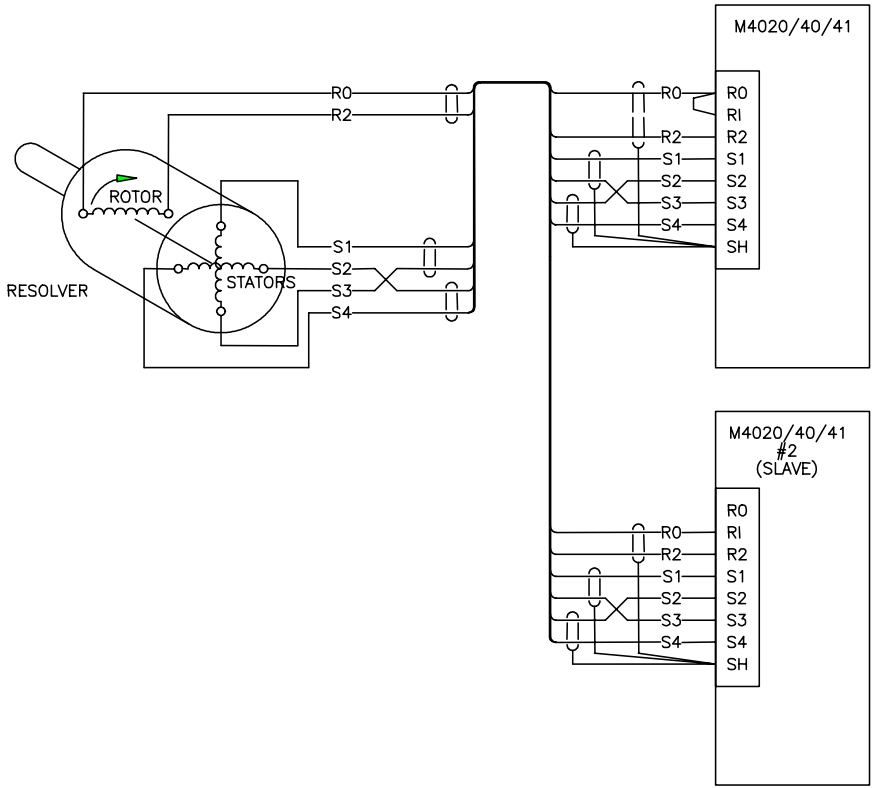

Figure 7.2 – M4020/40/41’s Slaved to One Resolver
Figure 7.2 shows two M4000 modules wired to one resolver with module #2 slaved to module #1 (reference for resolver supplied by module #1). In this case the reference output (RO) of module #1 is connected to the resolver and tied to the reference inputs (RI) of both modules while the reference output of module #2 is not used. Up to 8 modules can be slaved off one resolver this way.